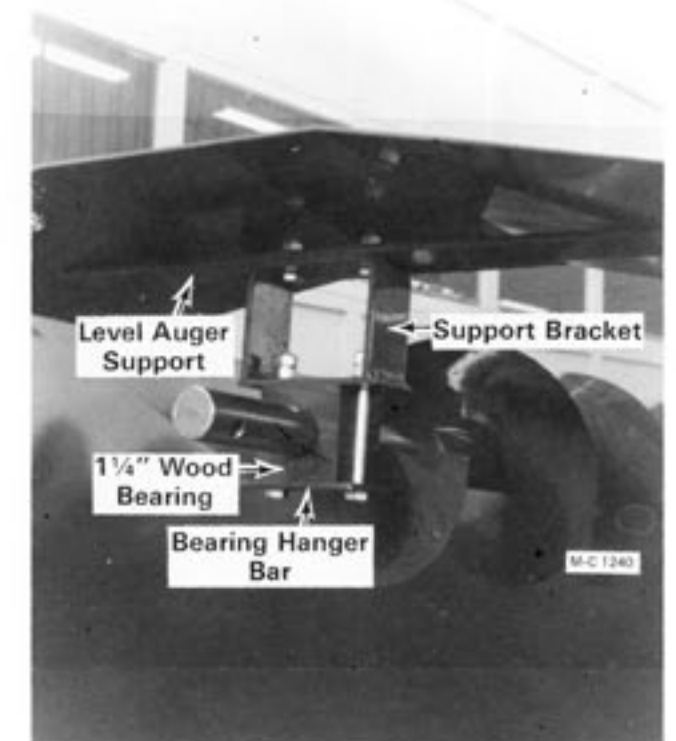

Figure 4 - Level Auger Bearing
3. Assemble the level auger bearing(s) to the level auger support(s), see Figure 4. **DO NOT** put pressure on the wood bearings by over tightening the bearing bars, see Figure 4.